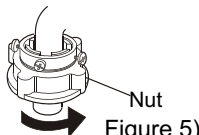

Figure 5)
4. Take off the nameplate. Twist the fastening nut as per the indication of the figure to seal up the outlet end surface of the faucet. See to Figure 5.